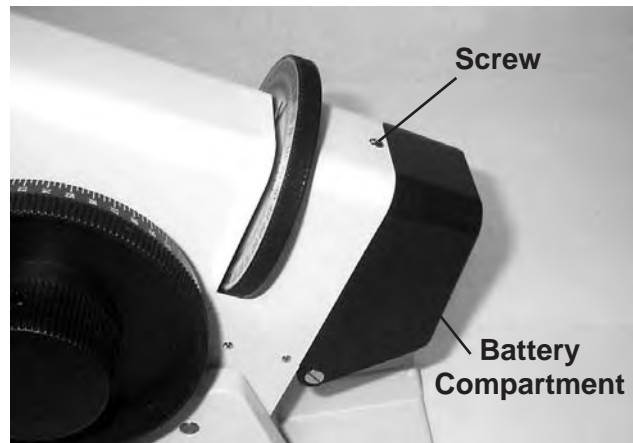

Figure SU-07 Battery Screw
1. Using a flathead screwdriver, remove the Screw that secures the Battery Compartment to the ML1. Refer to Figure SU-07.
3. Close the Battery Compartment and secure it with the screw. Refer to Figure SU-07.